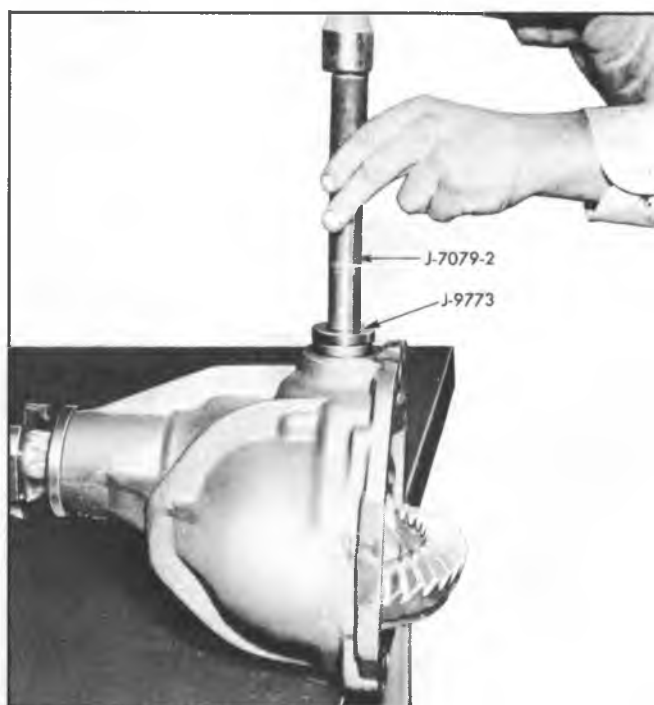

Fig. 6C--Installing Side Gear Yoke Bearings
1. Place new yoke bearings on Installer J-9773 and install bearing into carrier bore using Handle J-7079-2. See Figure 6C. Drive bearing until it is fully seated.